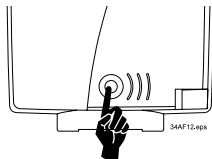

Fig. 2: Unlocking catch
- Press the unlocking catch at the back of the mecablitz (see fig. 2).
- Press the unlocking catch at the back of the mecablitz (fig. 2) and withdraw from the camera.